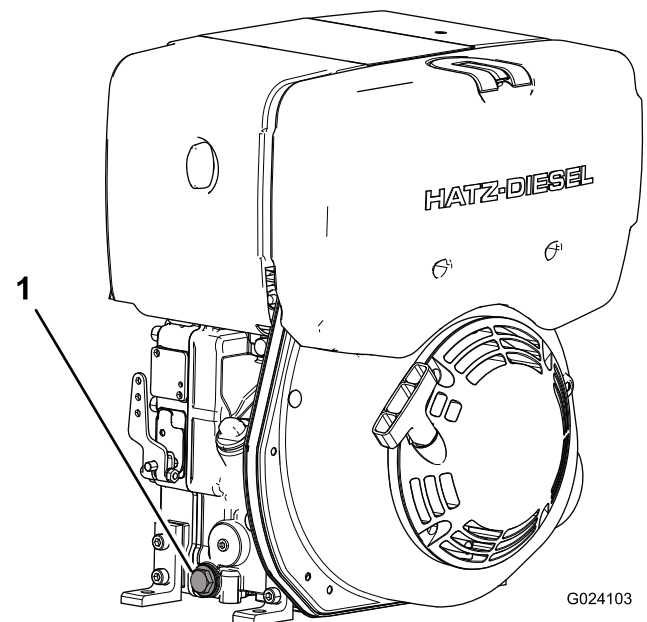

Figure 25
4. Place a suitable receptacle under the oil-drain plug (Figure 25).